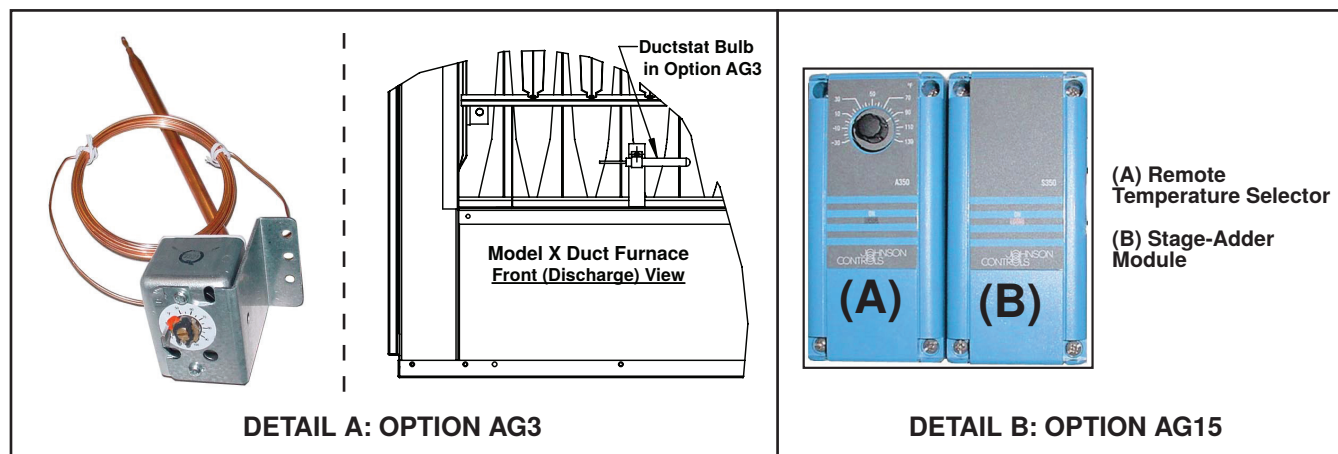

Figure 21. Ductstat Options
- **Ductstat with capillary tubing (option AG3):** The control (see Figure 21, DETAIL A) is set to 70°F (21.1°C) and has an adjustable range of 0°F to 100°F (–17.8°C to 37.8°C) with a fixed differential of 3°F (1.7°C). Due to different CFM settings and outside air temperatures, the average downstream outlet air temperature may not match the ductstat exactly. After the installation is complete, adjust the ductstat's setpoint to achieve the desired average discharge air temperature.
- **Ductstat with electronic remote setpoint module (option AG15):** The remote modules (see Figure 21, DETAIL B) are shipped separately for field-installation. There will be one module for selecting temperature and one-stage adder module. The sensing probe is field-wired to a remote temperature selector. Follow the wiring diagram provided with the unit and the manufacturer's instructions for wiring and installation. The temperature selector has an operating range to 120°F (48.9°C). For proper function, ensure that the switch is set to the **Heat** position.